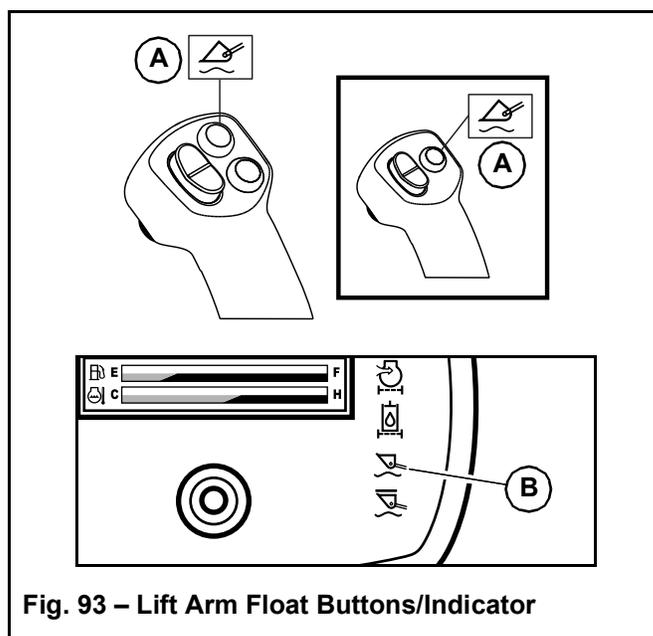

Fig. 93 – Lift Arm Float Buttons/Indicator
2. Press button (A, Fig. 93) on the right joystick to activate float:
- a. Press button (A, Fig. 93) momentarily to apply float momentarily.
- b. Press and hold button (A, Fig. 93) on the right joystick for 5 seconds to activate continuous float.